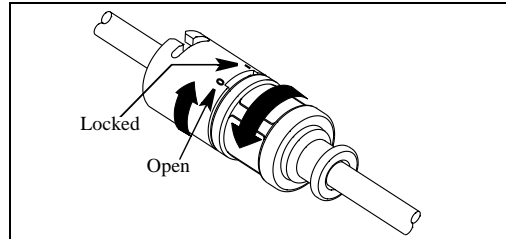

Fig. 1
6. Ensure that double TwistLock™ of catheter contamination shield is fully opened (refer to Fig. 1).